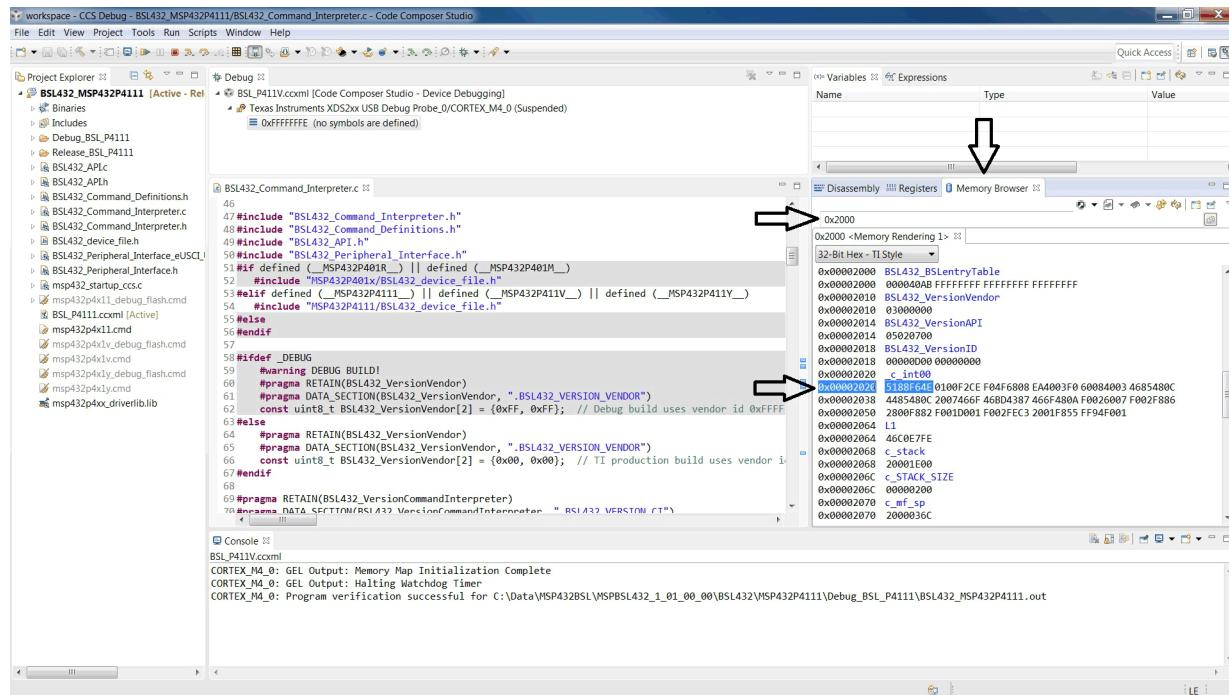

Figure 19. Memory Browser
10. From the menu bar, open the *Registers* and *Memory Browser* views. In the memory browser, the BSL in flash is programmed at address 0x2000. The code itself starts at address 0x2020 (see **Figure 19**).